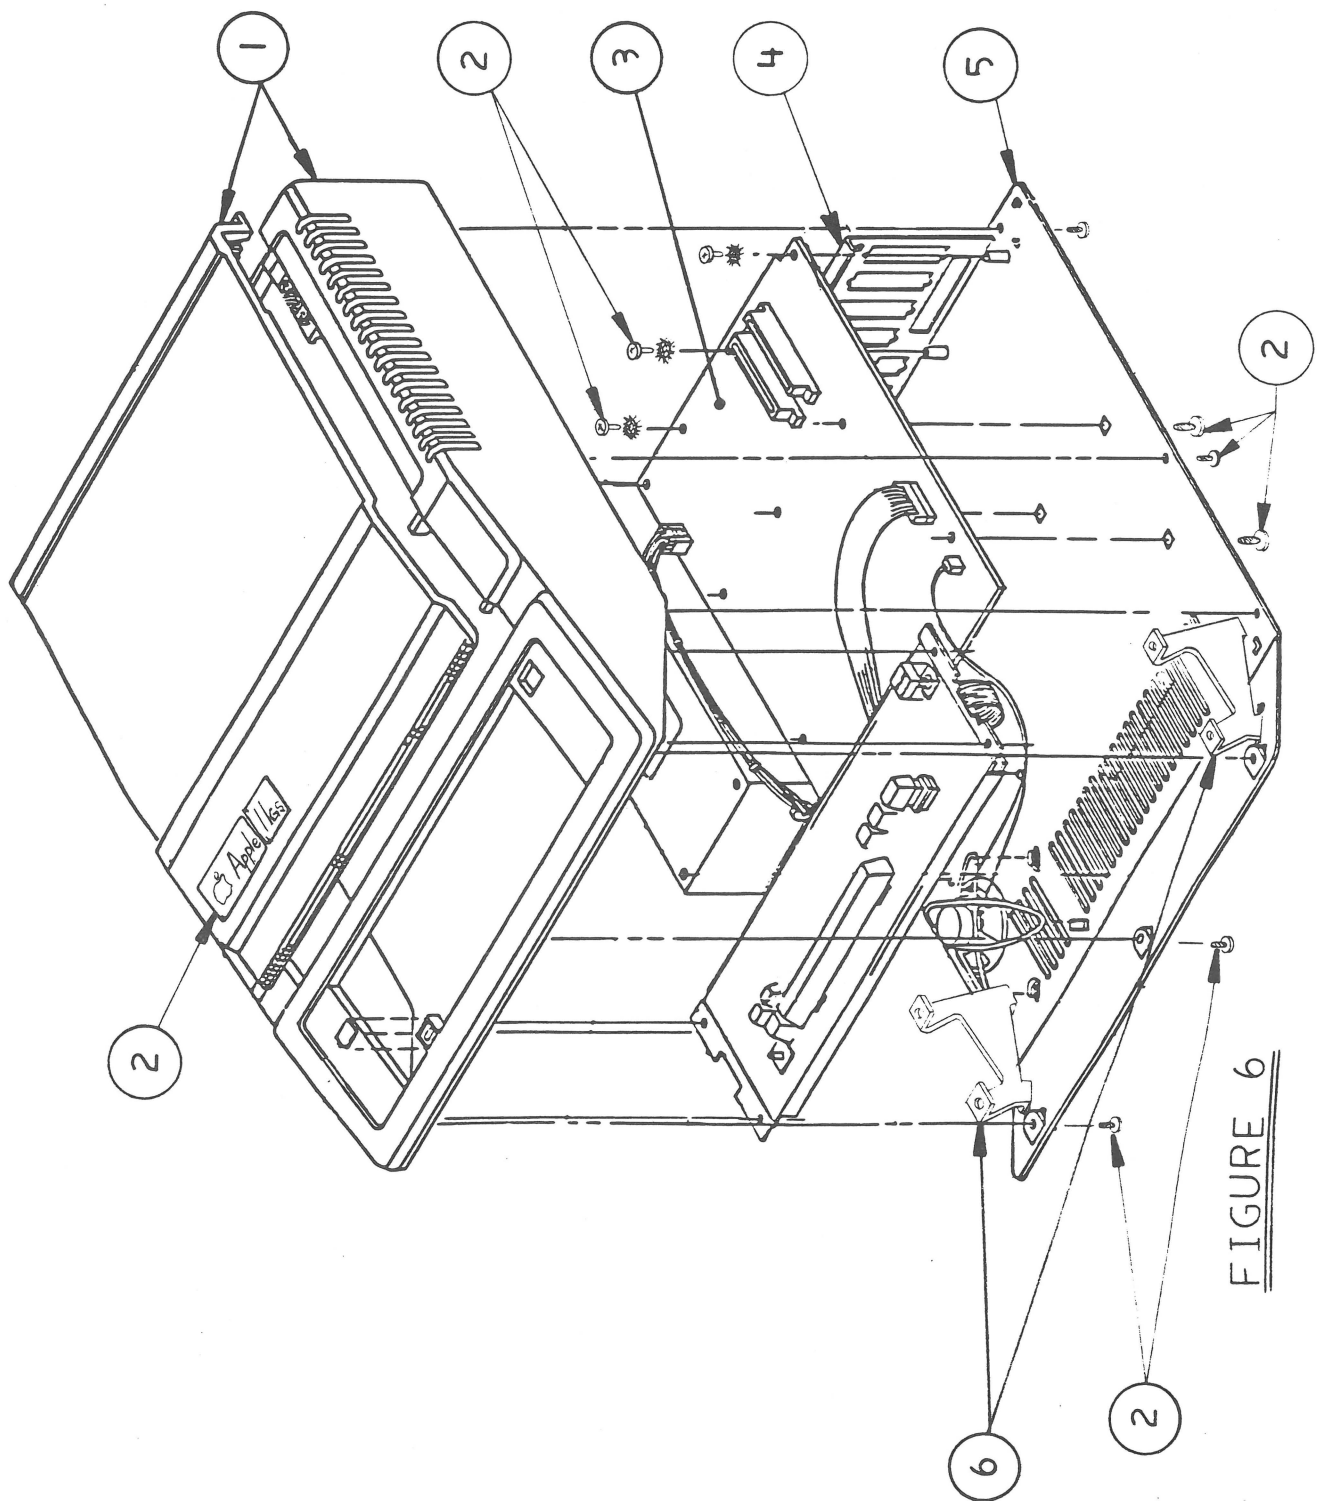

FIGURE 6
- IPL.13 Upgrade (Figure 6)
□ APPLE IIGS – UPGRADE (Figure 6)